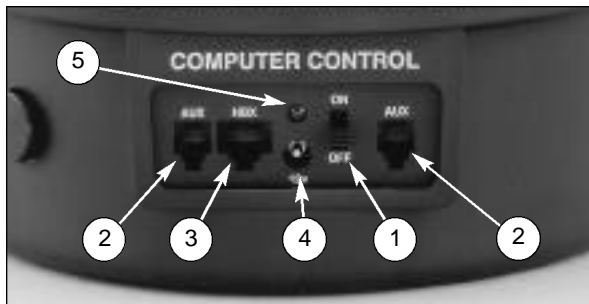
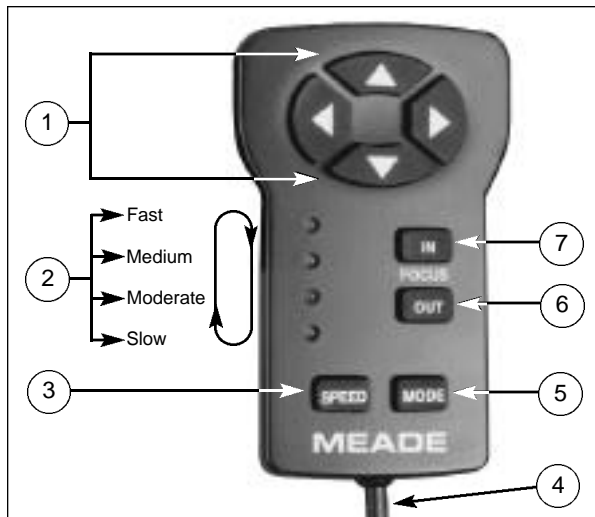

Fig. 5: Computer Control Panel. (1) ON/OFF switch; (2) Auxiliary ports; (3) Handbox port; (4) 12v connector; (5) Power indicator light.
Fig. 6: Electronic Controller. (1) Arrow Keys; (2) Indicator Lights; (3) SPEED Key; (4) Coil Cord; (5) MODE Key; (6) OUT Key; (7) IN Key.
4. Place the telescope in an upright position on a flat surface. Be certain that the power switch on the computer control panel (1, Fig. 5) is in the OFF position. Plug the coil cord for the Electronic Controller into the HBX port (3, Fig. 5).
The computer control panel (Fig. 5) of the ETX-90EC and ETX-125EC models include a connector for either the standard-equipment Electronic Controller or the optional #497 Autostar Computer Controller, an external power supply connector, and two auxiliary ports (see **OPTIONAL ACCESSORIES**, page 16).
ON/OFF (1, Fig. 5): When the ON/OFF switch is moved to the ON position, the red power indicator light (5, Fig. 5) illuminates and power is supplied to the Electronic Controller and to the telescope’s motor drive.
AUX (2, Fig. 5): Two identical auxiliary ports provide connections for current and future Meade accessories.
HBX (3, Fig. 5): The HBX (handbox) port is designed to accept the plug from the coil cord of the Electronic Controller or the optional #497 Autostar Computer Controller.
12v (4, Fig. 5): The 12v connector is designed to accept an external power supply such as the optional #541 AC adapter or the #607 Power Cord (see **OPTIONAL ACCESSORIES**, page 18). When one of these alternate powering options is used, the internal batteries are disconnected from the power circuit.
The Electronic Controller provides the observer with the means to control the telescope motors from a compact handbox. The Electronic Controller (Fig. 6) has soft-touch keys designed to have a positive feel, even through gloves.
Arrow Keys (1, Fig. 6): The four arrow keys slew the telescope in four directions (i.e., up-and-down or left-and-right) at any one of four slew speeds (see **SPEED Key**, page 7).
Indicator Lights (2, Fig. 6): Four red LED (Light Emitting Diode) lights are used to indicate the current slew speed.
SPEED Key (3, Fig. 6): The SPEED key is used to change the speed at which the telescope slews when the arrow keys are pressed. Each press of the SPEED key changes the slew speed to the next slower setting. If the controller is already on the slowest slew speed (light 4), pressing the SPEED key cycles back to the highest speed (light 1). Slew speeds are signified by the indicator lights (2, Fig. 6).
MODE Key (5, Fig. 6): Pressing and holding the MODE key puts the Electronic Controller into the Mode function (see **Electronic Controller Modes**, page 11).
OUT Key (6, Fig. 6): The OUT key is used in conjunction with the optional #1244 (ETX-90EC) or #1247 (ETX-125EC) Electric Focuser (see **OPTIONAL ACCESSORIES**, page 18) to move the focus point outward.
IN Key (7, Fig. 6): The IN key is used in conjunction with the optional Electric Focuser to move the focus point inward.
For the ultimate viewing experience, become familiar with the features of your ETX telescope and the functions of the Electronic Controller. Upon completing this chapter make first observations of a simple land object several hundred yards in the distance— perhaps a telephone pole or a building. Locate objects first in the viewfinder before viewing them in the main telescope (see **Aligning the Viewfinder**, page 8). Practice focusing on the object using the focus knob (9, Fig. 1) and centering the object in the eyepiece using the Electronic Controller arrows keys (1, Fig. 6).
4. Verify that the power switch (1, Fig. 5) on the telescope’s computer control panel is OFF.
5. Plug in the Electronic Controller coil cord (4, Fig. 6) to the HBXport (3, Fig. 5) on the computer control panel.
6. Flip the power switch to ON. The power indicator light (5, Fig. 5) on the computer control panel comes on and all four Electronic Controller indicator lights (2, Fig. 6) blink rapidly.
9. Use the four arrow keys (1, Fig. 6) to slew the telescope to the desired object. To change the slew speed, press the SPEED key.